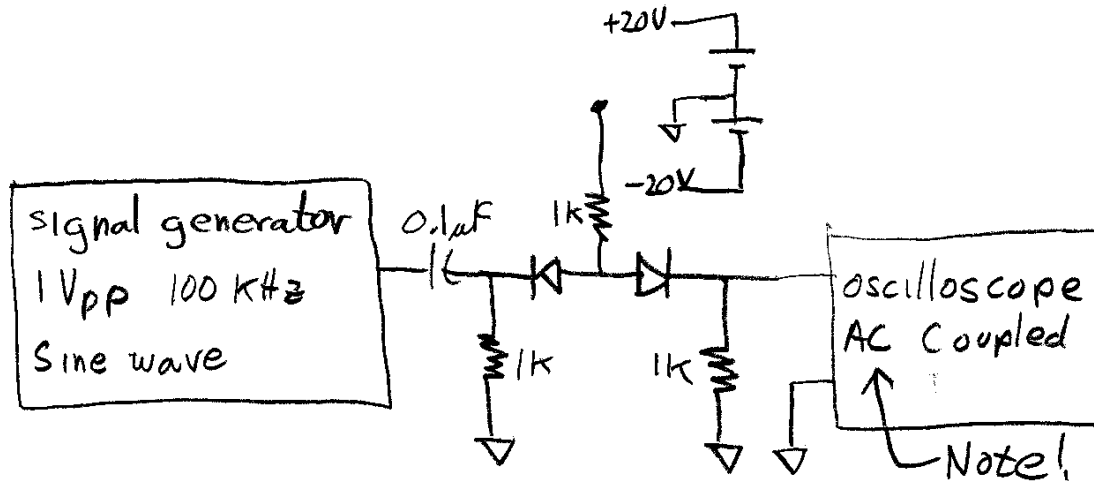

Figure 6: Electronic switch
- 5.1 Build the circuit in Figure 6.